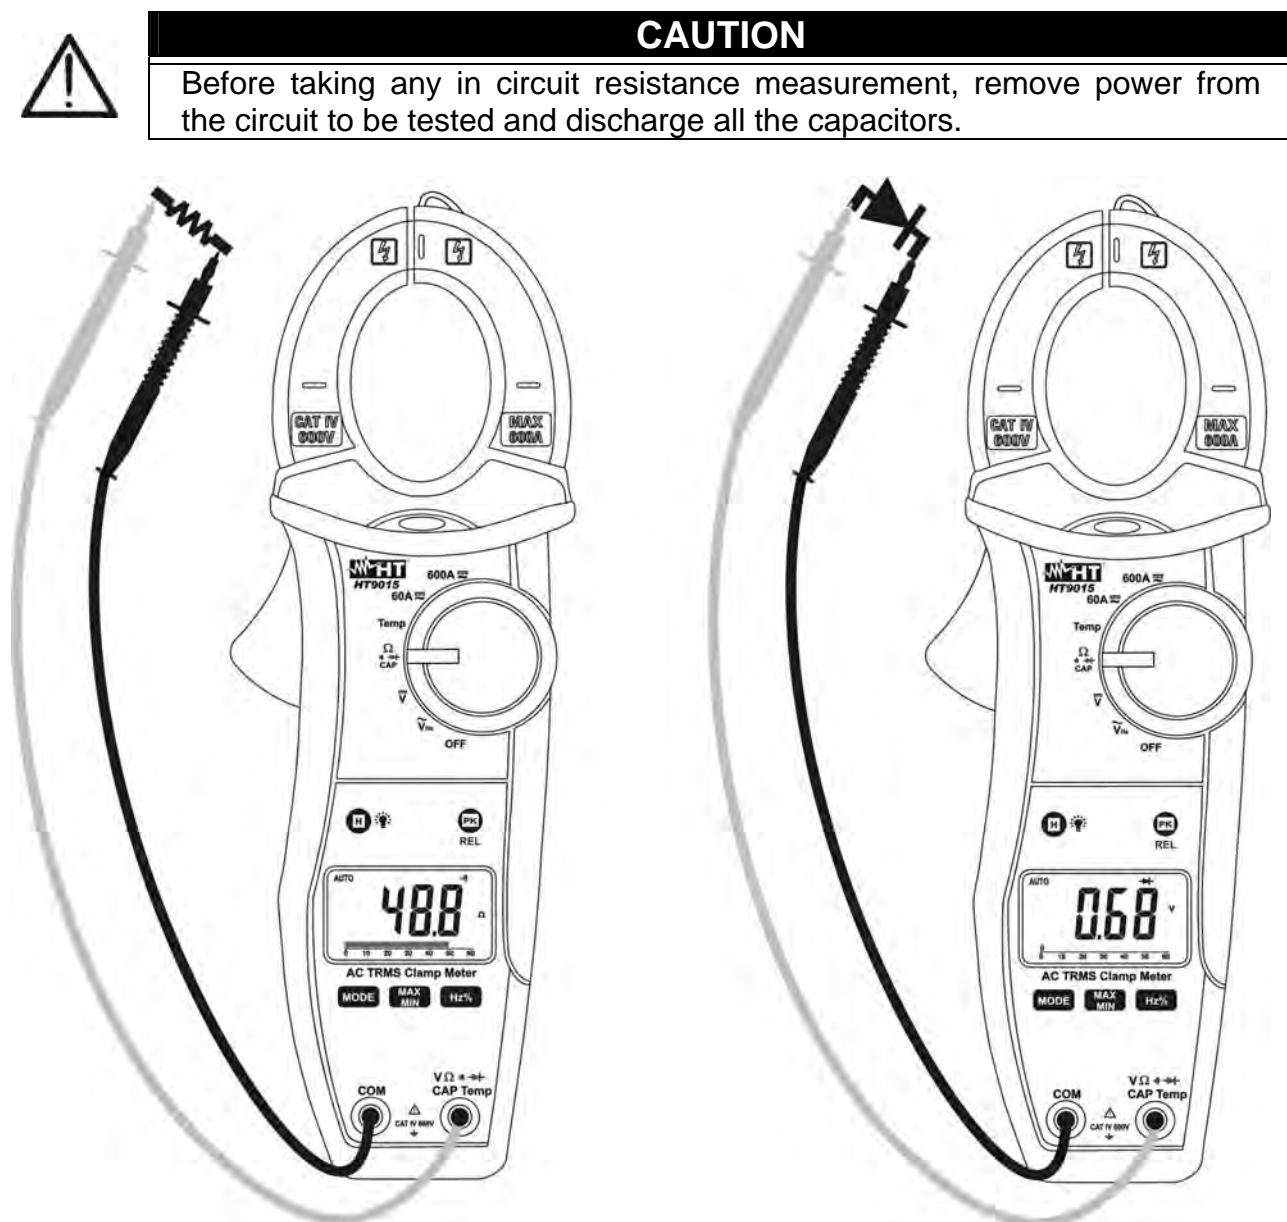

Fig. 6: Taking Continuity test and Diode test
3. Insert the red test lead plug into $V\Omega \cdot \cdot \cdot \rightarrow \text{CAPHzTemp}$ jack and the black test lead plug into **COM** jack and perform continuity test on the object under test (see Fig. 6 – left side). Buzzer emits sound if the measured resistance value is less about 60Ω
5. Connect the red test leads to the anode of diode on test and the black test lead on the cathode ones (see Fig. 6 – right side). Reverse position of test leads to reading reverse polarization voltage